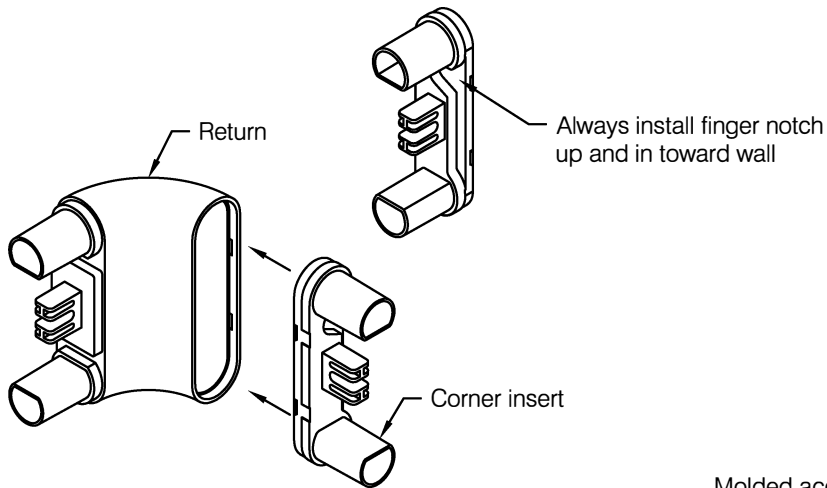

fig 3
- Step 5:** Assemble inside and outside corner accessories by snapping corner insert into the molded return, see **fig 3**. Always install the insert with finger notch up and in toward wall. It may be necessary to reverse the position of the molded return to accomplish the correct insert orientation.